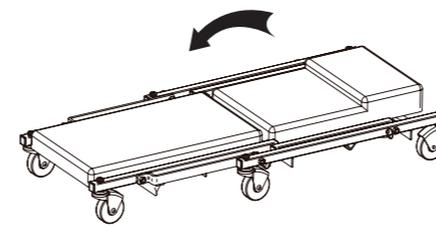

Fig. 4
2. Unlock the spring loaded Lock Pin by pulling out until disengaged, then reverse steps 1, to convert Creeper Seat into Creeper (Fig. 4).